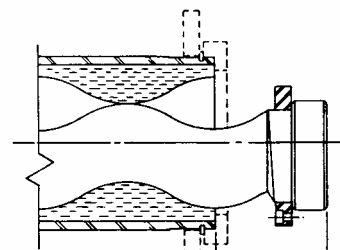

Fig. 4-5. Rotor Installation
2. Slide stator clamp rings (36) on both ends of the stator (30) and secure in position with retaining rings (35).
3. On F012, G022, H036, H050 and K115 models, place one stator gasket (34) in recess of adapter flange (25A), and fit adapter flange with gasket to end of stator.
4. Coat the rotor (40) contour with waterless hand cleaner, glycol or other lubricant compatible with the stator elastomer. Insert rotor into stator so that rotor head is at the specified distance from the end of the stator (Dimension "A," fig. 4-5). On F012, G022, H036, and K115 models, be sure the rotor is inserted in the end of the stator fitted with the adapter flange (25A) and gasket (34).